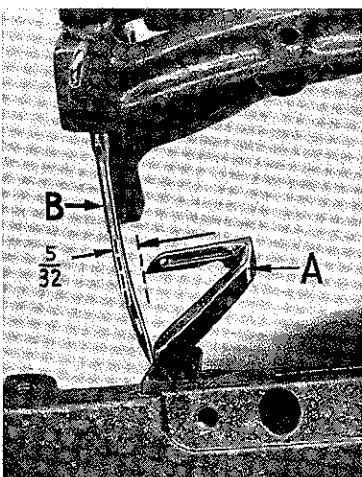

Fig. 3
The looper gauge is the distance between the point of the looper (A, Fig. 3) and the center of the needle (B) when the looper is in its extreme position to the right. This distance should be  $\frac{5}{32}$ " (Fig. 3).